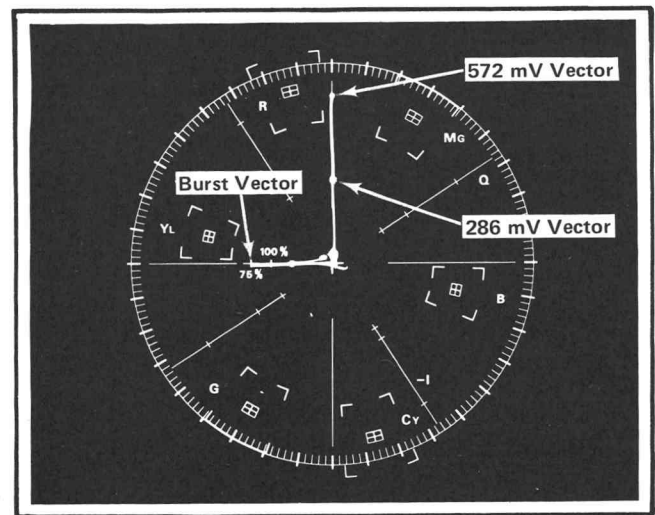

Fig. 5-1. Vectorscope display of modulated subcarrier.
a. CHECK—Vectorscope display; phase error between 572 mV and 286 mV vectors should be within 0.5° (see Fig. 5-1).